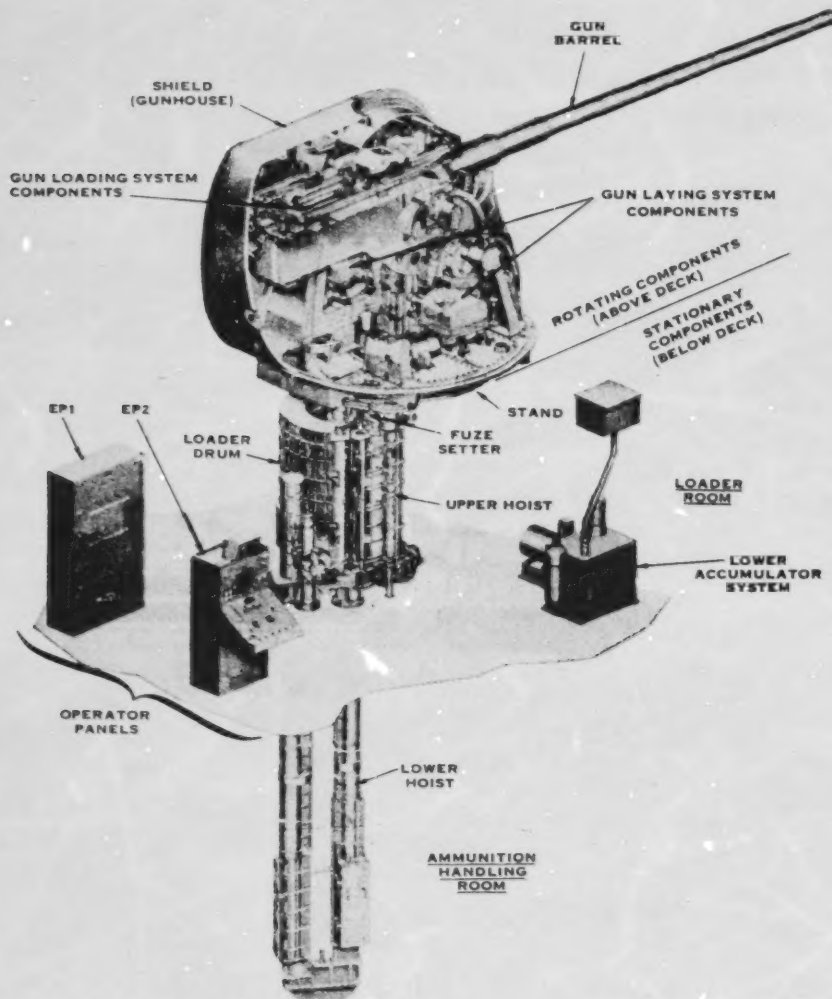

Figure 9-46.—5-inch 54-Caliber Gun Mount Mk 45 Mod 0: General arrangement.
The Mk 45 gun mount (fig. 9-46) is a fully automated, single barrel weapon that stows, aims, and fires 5"/54 ammunition. A light weight gun mount, the Mk 45 provides surface escort vessels with a weapon for firing 70-pound projectiles at surface craft, low-altitude aircraft, and shore targets.
The mount has two structural component groups; (fig. 9-46) stationary and rotating. The stationary group of components include two operating panels EP1 and EP2 (the mount control system), lower hoist (if required), loader drum, fuze setter, upper hoist, and lower accumulator system.
The stationary group of the gun loading system components is in the loader room (fig. 9-46) and in the ammunition handling room (for mounts requiring a lower hoist) a compartment one or more decks below the loader room. The stationary components stow, select, and transfer ammunition (powder and projectile) to the rotating structure above deck. If the projectile of a selected round has a mechanical time fuze (MT), a fuze setter (mounted to the loader drum) sets the fuze before the round moves to the upper hoist. The panels, power distribution panel EP1 and control panel EP2, provide the means for one man to initiate and monitor operation of the gun mount.